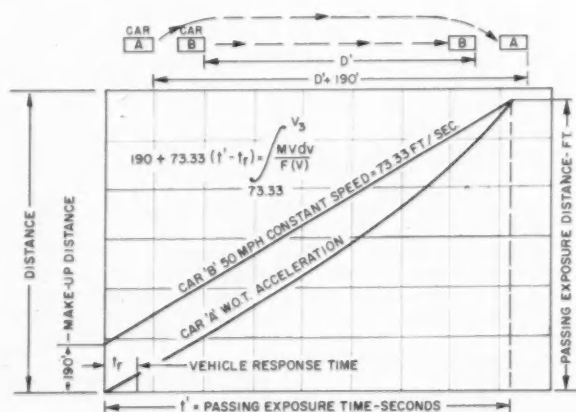

Fig. 1 — 50-mph passing exposure time — simulated passing maneuver.
3. 50 Mph Passing Exposure Time. This simulates a vehicle passing maneuver and is the time required at wide-open-throttle to accelerate the vehicle from 50 mph constant speed through a distance 190 ft greater than that traveled by a 50 mph constant-speed vehicle during the same time. Time is measured from initial depression of the accelerator from the 50 mph constant-speed position. The 190-ft make-up distance provides adequate vehicle spacing at 50 mph. While a downshift operation is included for cars with automatic transmissions, manual shift transmissions are appraised on the basis of high-gear operation. A graphical definition of this criterion is shown in Fig. 1.
The equation expressing the 50 mph passing exposure time, t^1 , is formulated from the graphical definition of this criterion shown in Fig. 1.